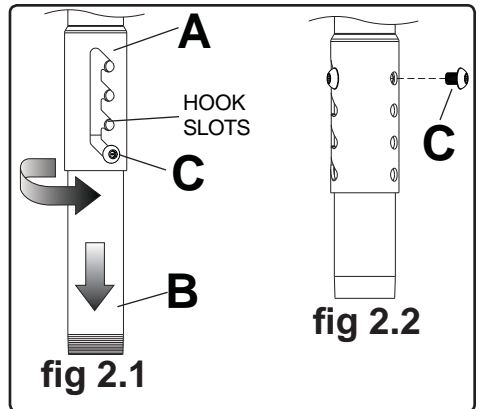

fig 2.1
Insert extension pipe (B) into adjuster tube (A) and secure with one screw (C). Adjust extension pipe to locate screw (C) into desired hook slot as shown in figure 2.1.